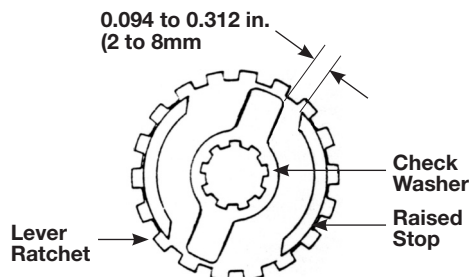

Figure 9 - Position of Check Washer
Place the check washer (18) on the pinion shaft so that there is 0.094 to 0.312 inches (2 to 8 mm) between the edge of the check washer and the raised stop on the lever ratchet hub (See Figure 9).